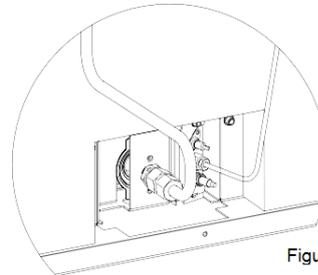

Figure 8
3.3.3 Oven Burner – To Replace Injector (from rear of oven - Refer to Figure 8)